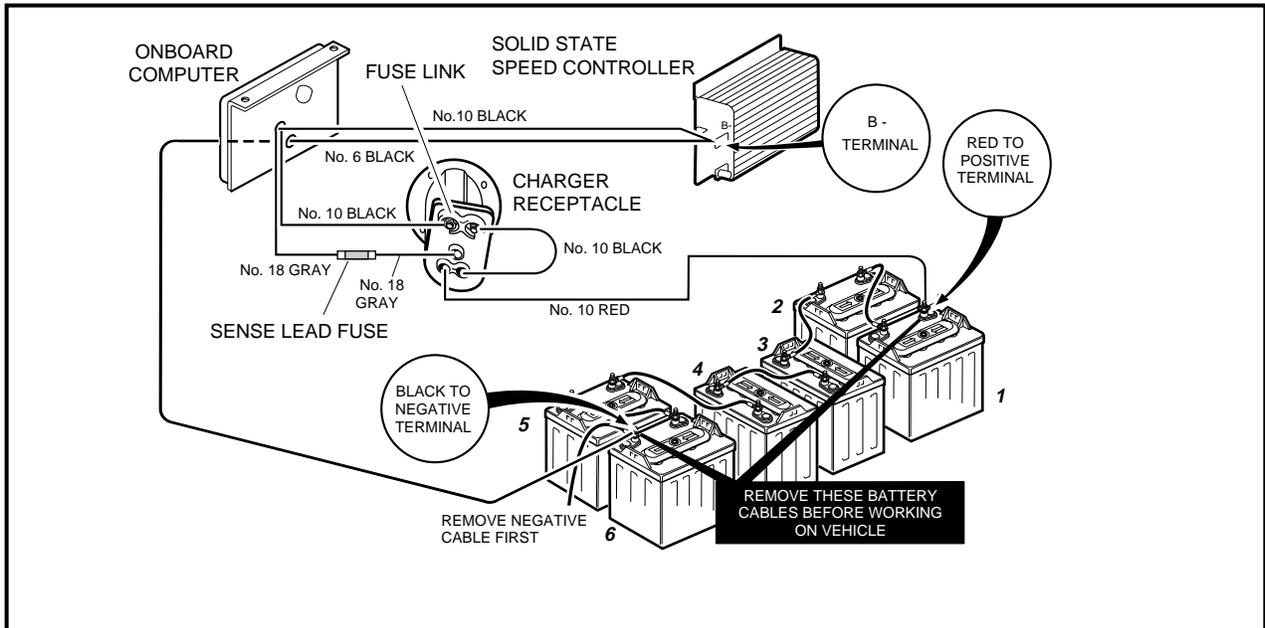

Figure 14-2 Charge Circuit and Battery Configuration - Short Frame Vehicle
- TO AVOID UNINTENTIONALLY STARTING THE VEHICLE, DISCONNECT BATTERIES AS SHOWN IN **FIGURES 14-2 AND 14-3, PAGE 14-5.** DISCHARGE CONTROLLER AS FOLLOWS:
The vehicle charge circuit consists of the charger receptacle, fuse link, onboard computer, and the batteries. The negative terminal of the receptacle is connected to the onboard computer. The 10 gauge black wire from the onboard computer connects to the B- terminal on the speed controller, and the 6 gauge black wire (also on the controller B- terminal) goes through the onboard computer and connects to the negative (-) post of battery No. 6. The positive terminal of the charger receptacle is connected to the positive post of battery No. 1. The gray wire (sense lead) from the charger receptacle is connected to the sense lead fuse, which is connected to the gray wire from the onboard computer. If the charger works with one vehicle, but does not work with another, then most likely the problem is in the vehicle charge circuit. Check the connections between the 18 gauge gray wire from the charger receptacle, the sense lead fuse, and the 18 gauge gray wire from the onboard computer. Also check connections of the fuse link located on the charger receptacle (**Figure 14-2 or 14-3, Page 14-5**).